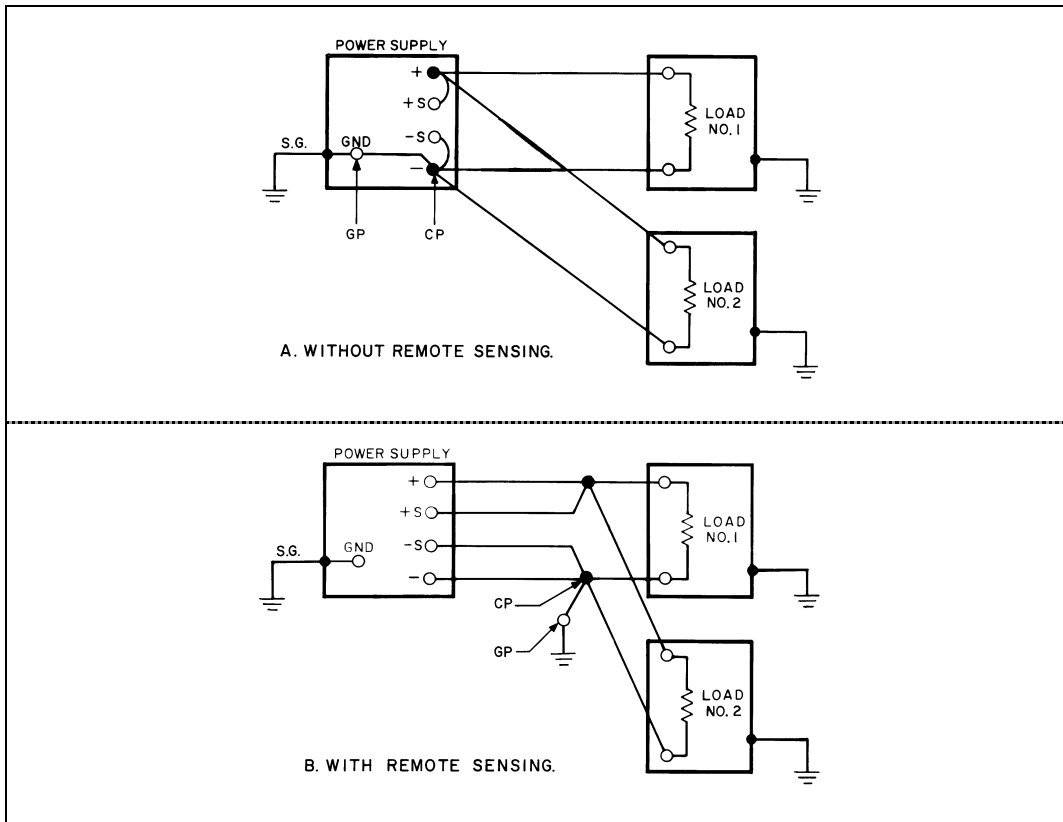

Figure 41. Preferred Ground Connections for Multiple Loads, All Isolated
b. Multiple Ungrounded Loads--Select the positive or negative DC Distribution Terminal as the DC Common Point. This alternative is applicable when there are two or more separate loads with separate pairs of load leads, and none of the load circuits has internal connections to chassis or ground (Figure 41).